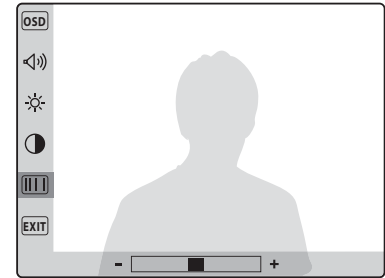

Fig.3c
- La saturazione (8 livelli Fig.3c).
- The picture hue (8 levels Fig.3c);